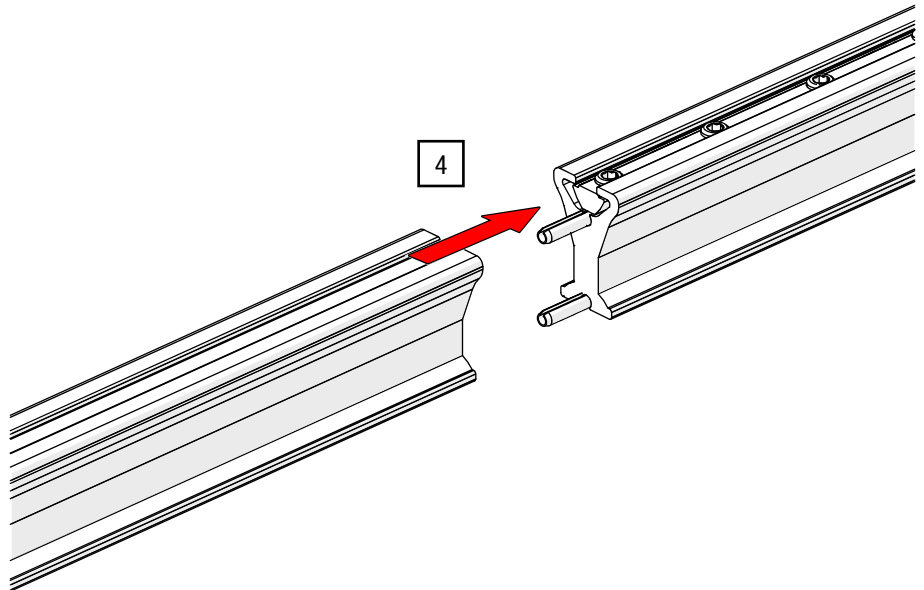

Fig. 28: Track splice – Join track sections together
4. Place the second track section on the connecting pins and position it flush with the first track section (see Fig. 28).